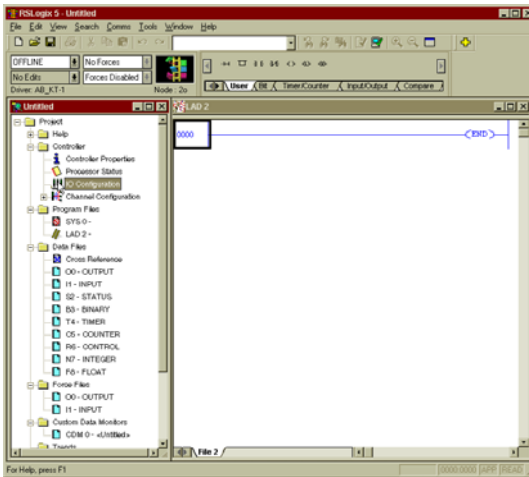

FIG. 4-9 SELECTING I/O CONFIGURATION
- Step 3. Click on OK. The Project Display appears. (See Fig. 4-9)